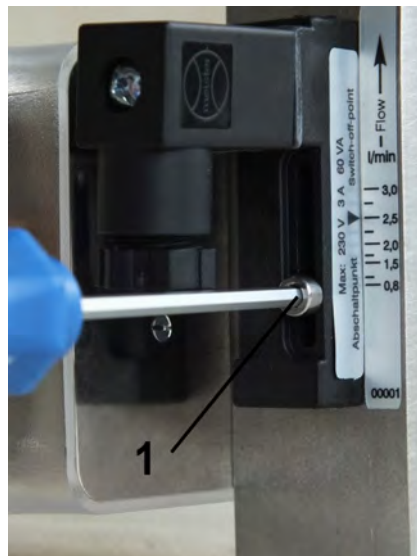

Fig. 33: Loosen set screw
1. ➤ Loosen the switch contact set screw (Fig. 33/1) using a hex screwdriver.
3. ➤ Re-tighten the switch contact set screw (Fig. 33/1) using a hex screwdriver. Observe the correct tightening torque.